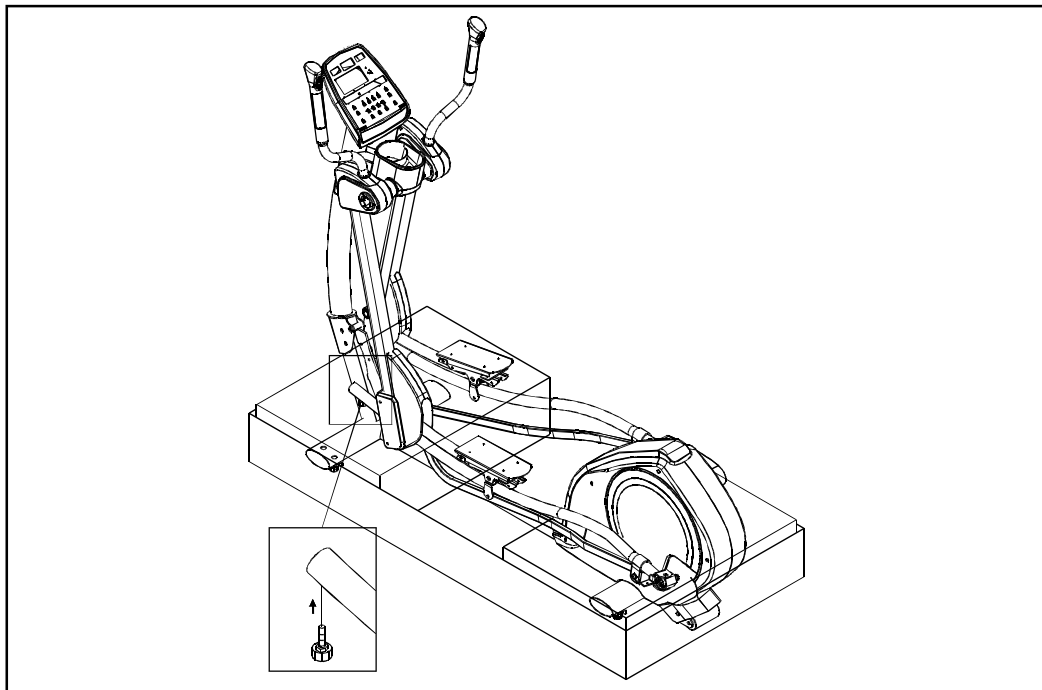

Fig.4
STEP 7. Secure stopper bolts on the front, bottom of both glide rails. Then remove the unit from the lower box. (See Fig. 4)